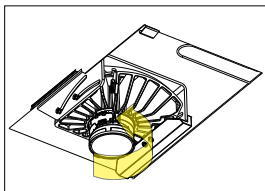

fig. 21
- a. Grab optic and twist counterclockwise to unlock. Pull toward you to remove (see fig. 21). If the optic cannot be removed by hand, a suction cup can be used.